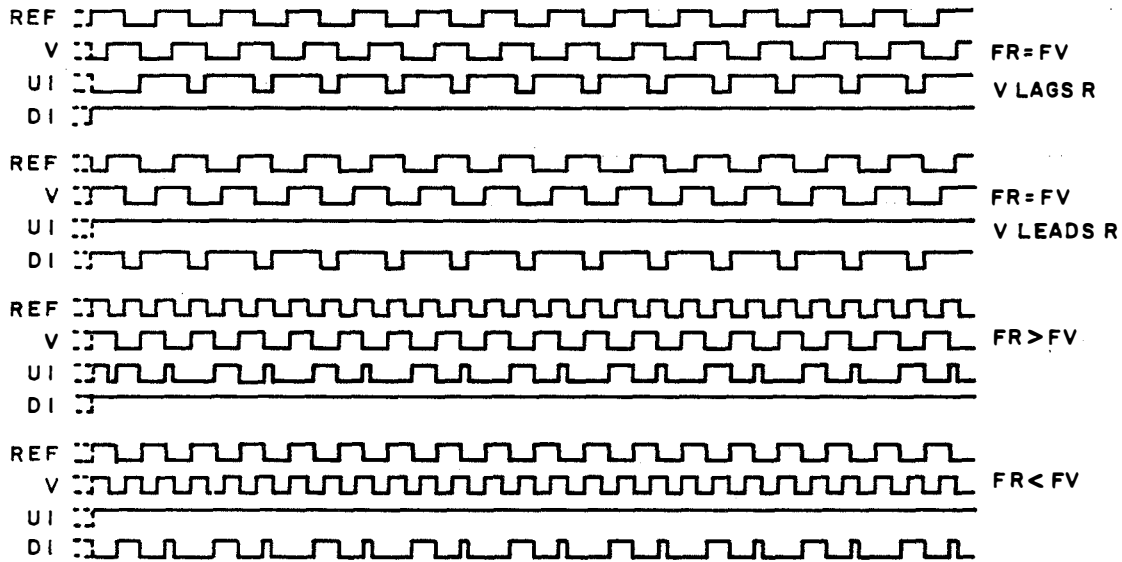

Figure 3-12. Phase Detector Timing Diagram
3-89. The phase detector normally receives a fixed reference frequency at one input (R) and a variable frequency at the input (V) from the divider section. The output responds only to transitions from the two inputs and has four output states as shown in figure 3-12. If the frequency and phase match exactly, outputs U and D remain high. If the variable input leads in phase with respect to the reference input, U remains high and D goes low. If the variable input lags in phase with respect to the reference input, D remains high and U goes low. When inputs V and R are separated by a frequency difference, the output at pins U or D varies high and low at a rate proportional to the difference frequency of the two inputs.